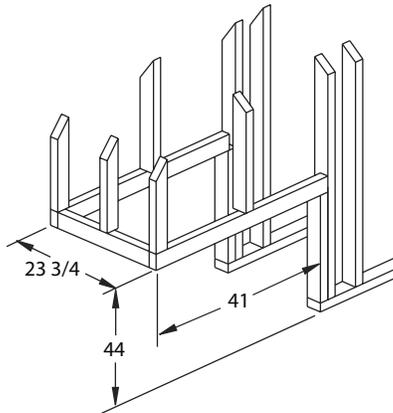

Figure 2. Framing dimensions.
- 1). Frame in the enclosure for the unit with framing materials. The framed opening for the assembled fireplace is 23 3/4" wide, x 44" high x 41" deep, see Figure 2.